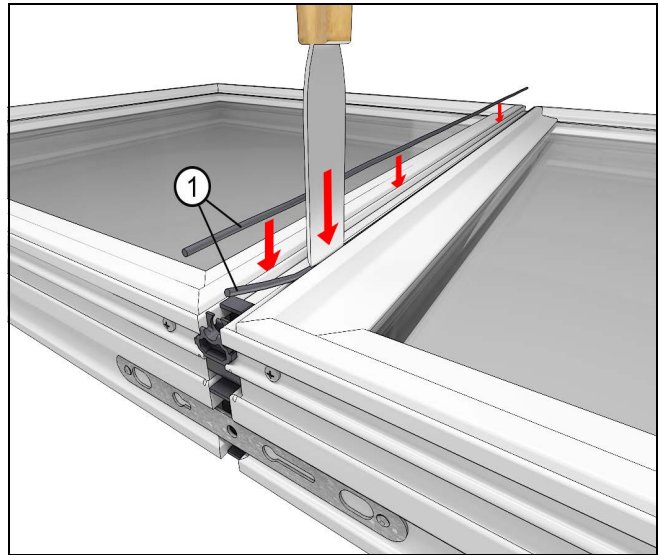
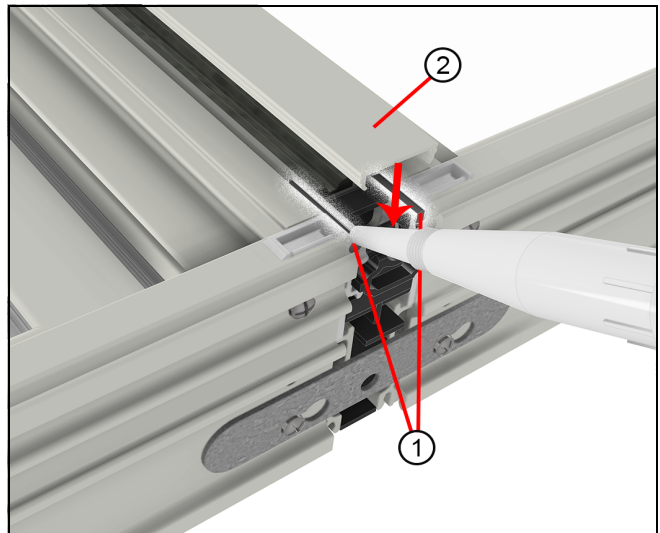
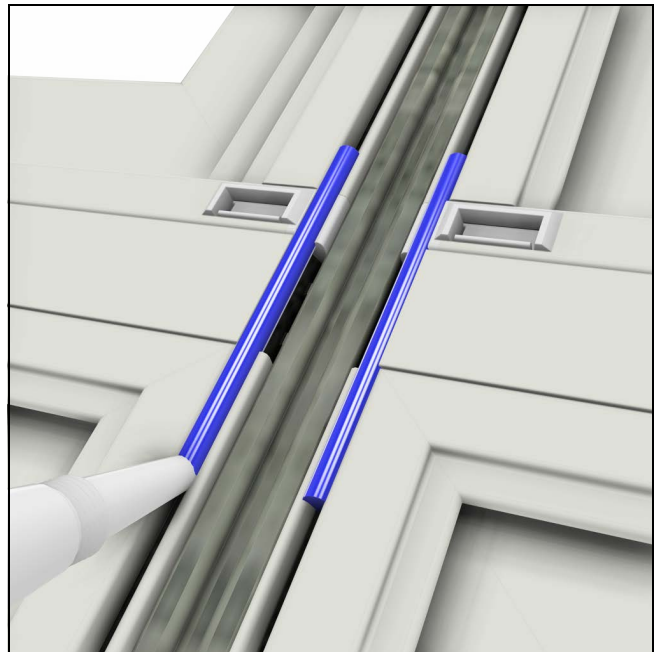

Figure 10
Figure 11
Figure 17
7. Insert kerf weather strip into the accessory kerf on both sides along the full length of the mull. Apply 1" bead of silicone on top of kerf weather strip in the accessory kerf at mull ends. See Figure 10.
8. Install the exterior mull cover. These should be flush with the interior edge of the accessory kerf to allow for J-channel application. You may have to seat the cover with a rubber mallet or wood block and hammer. See Figure 11.
2. Insert kerf weather strips. See Figure 10 and Figure 11 above. Then apply a 2" bead of silicone along the vertical accessory kerfs across the intersection. See Figure 17.